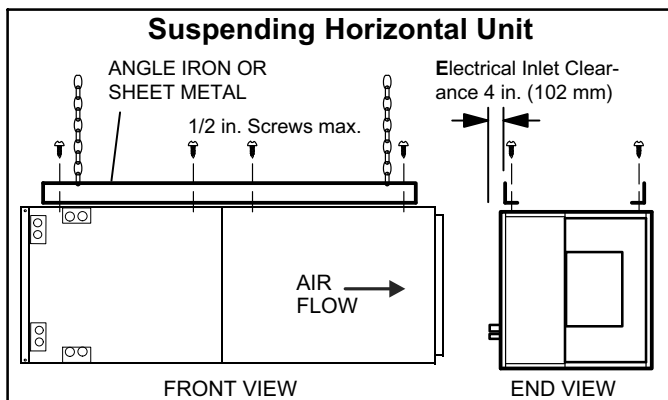

FIGURE 10
6. If the unit is suspended, the entire length of the cabinet must be supported. If you use a chain or strap, use a piece of angle iron or sheet metal attached to the unit (either above or below) to support the length of the cabinet. Use securing screws no longer than 1/2 inch to avoid damaging the coil or filter. See figure 10. Use sheet metal screws to connect the return and supply air plenums as required.